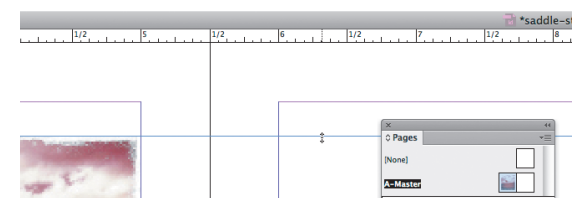

FIGURE 17.18 Position a horizontal guide on both pages of the spread.
4. Set guides on the left and right pages of A-Master to use as an alignment tool for all images in the book. To determine where you should place the images, double-click the left page of the A-Master page in the Pages panel; then choose the File menu > Place and choose one of the 12 TIFF images. Use the margin closest to the gutter, where the saddle stitch will bind the book, for horizontal alignment. This means you simply need a guide on the top or bottom of the image for vertical alignment. Position the image centered on the page and give it a little extra room on the bottom to create bottom weight on the page. When I did this, I noticed that I was close enough to .75 inches on the ruler, so I placed my horizontal guide at that position on both pages (FIGURE 17.18).